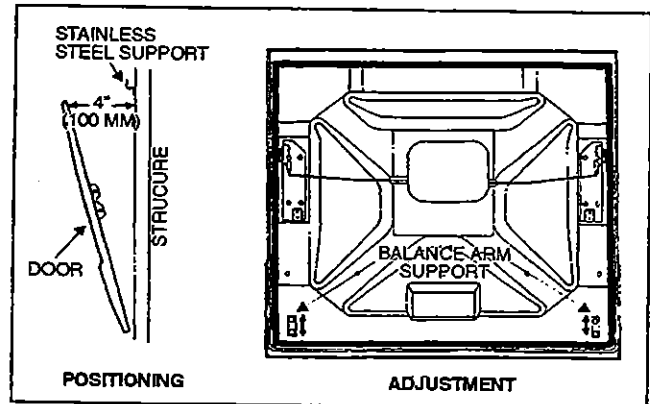

Figure 22
5. Slightly open the door, position it to obtain a gap of 4" (100 mm) between structure and door panel upper lip, maintain door in this position while an assistant completes tightening the two bolts retaining door to each balance arm support. Refer to figure 22.